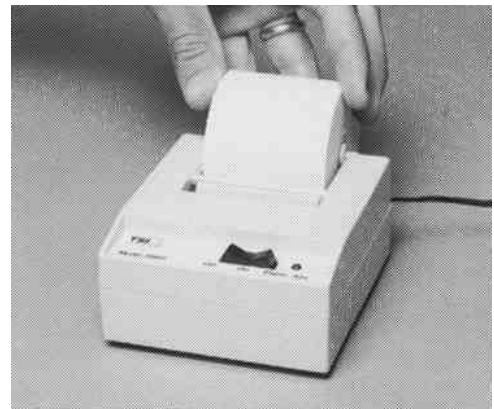

Figure VIII-12. Installing the paper spindle
Step 10. Put the paper spindle into the paper roll and press the roll with the spindle into the clips near the back of the printer (fig. VIII-12).